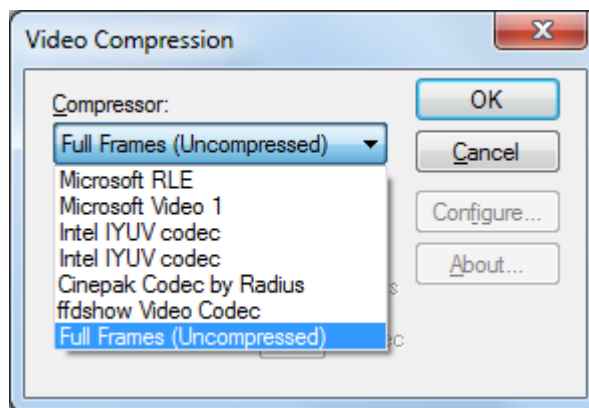

Figure 14: Choose the type of compressor
- Chooses between codecs installed in the PC (figure 14)